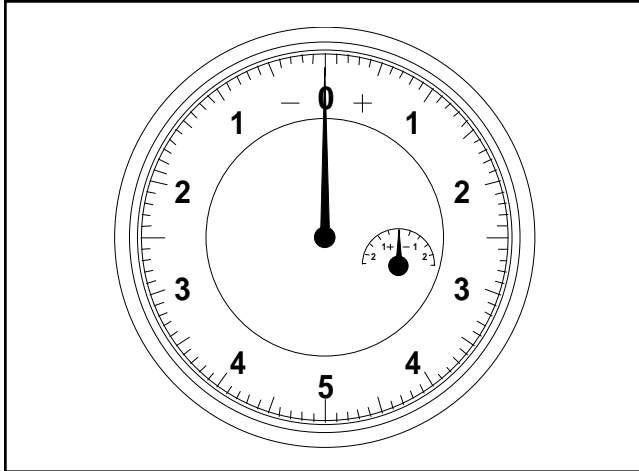

Figure 2. Pin Depth Gauge
a. Beware of Destructive Pin Depth on Mating Connectors. Measure the pin depth of the connector that mates with the RF component, *before* mating. Use an ANRITSU Pin Depth Gauge (Figure 2, Table 1) or equivalent. Based on RF components returned for repair, destructive pin depth on mating connectors is the major cause of